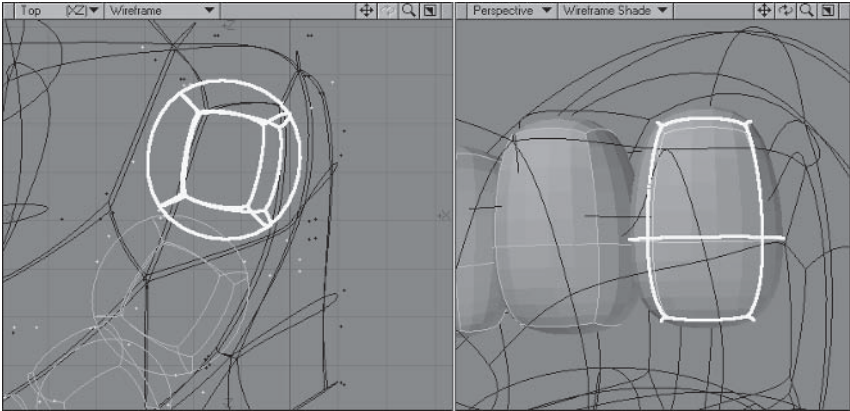

Figure 5.3-116. Positioning the molars.
- 9. **Copy** and **Paste** the molar, then position and **Rotate** it to match Figure 5.3-116.